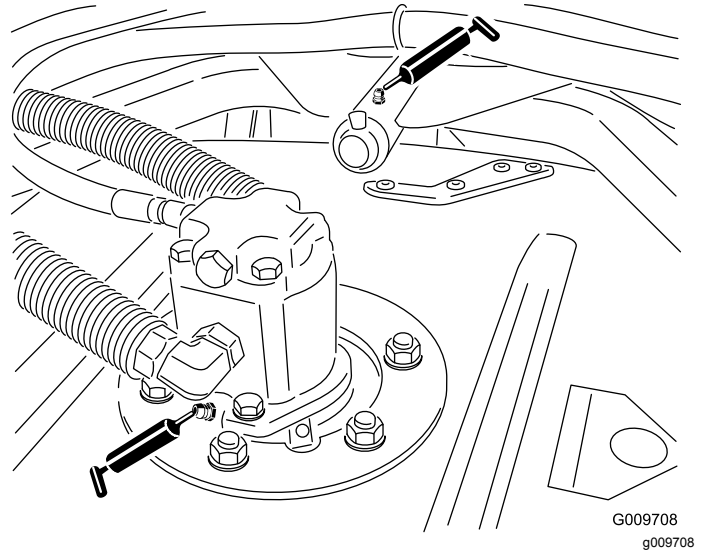

Figure 52
- Cutting unit spindle-shaft bearings (2 per cutting unit) (Figure 52)
- Cutting unit carrier-arm bushings (1 per cutting unit) (Figure 52)